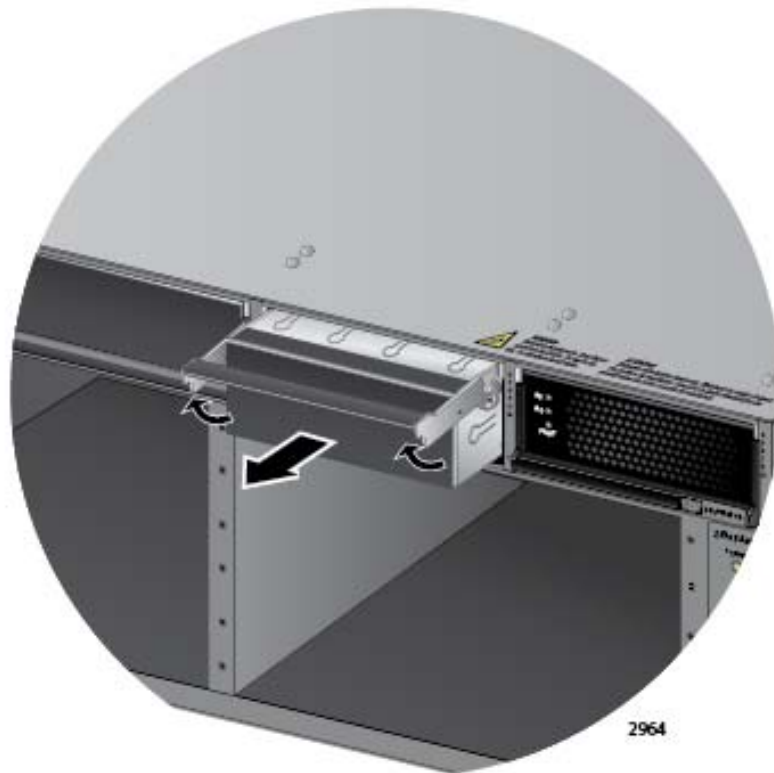

Figure 51. Removing the Blank Slot Cover from Power Supply Slot C
2. If the chassis already has a power supply in slot D, remove the blank power supply panel from slot C by lifting the blank panel handle and sliding it out of the slot, as shown in Figure 51.